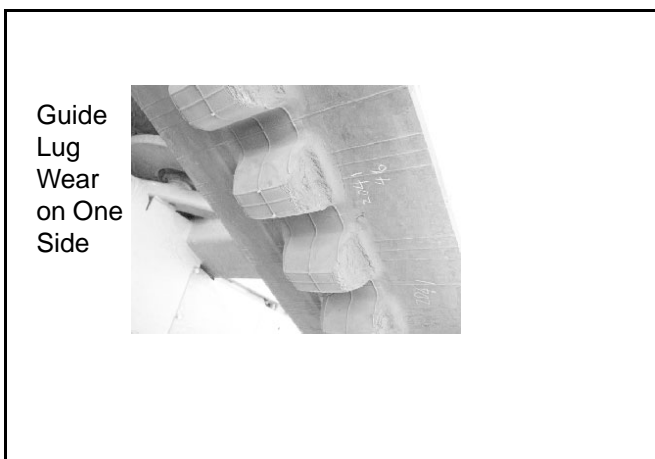

Figure 3 - 52 Rubber Track Alignment
- **Visual Inspection.** Unlike pneumatic tires, the rubber track is not as sensitive to chippings and cracks on the surface unless they extend to the separation of rubber from belt. The rubber track is not a 100% maintenance free product. The following items will be helpful to maintain and inspect your rubber tracks: (Figure 3 - 53)